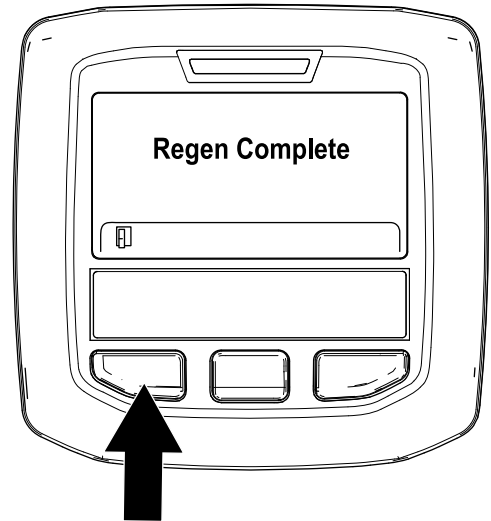

Figure 58
9. The parked regeneration is complete when the "Regen Complete" message displays in the InfoCenter. Press the left button to exit to the home screen (Figure 58).